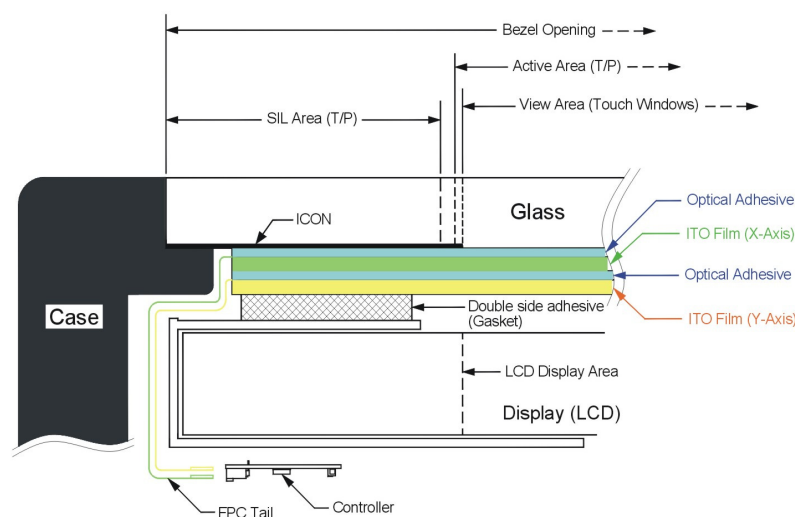

Figure 12-1
(1)	<p>The gasket support of touch panel must be designed on the outside of viewable area, as well as to avoid pressing on touch panel accidentally. The enclosure must be designed with enough clearance of panel surface. To avoid accidental actuation error on touch panel, please reserve sufficient space between the touch panel surface and the bezel. (Figure 12-1)</p> <p>[請將固定觸控屏用的支撐體(support)設計於可視區(Viewable area)之外。為避免不小心碰到觸控屏而產生動作，請預留空間於面板與機體外殼之間] (圖示 12-1)</p>